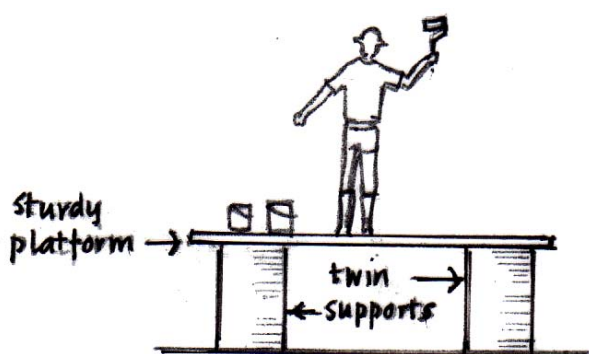

Fig 11-Typical safe work platform
- Ensured the stability of working platform for painters (See Fig. 11)